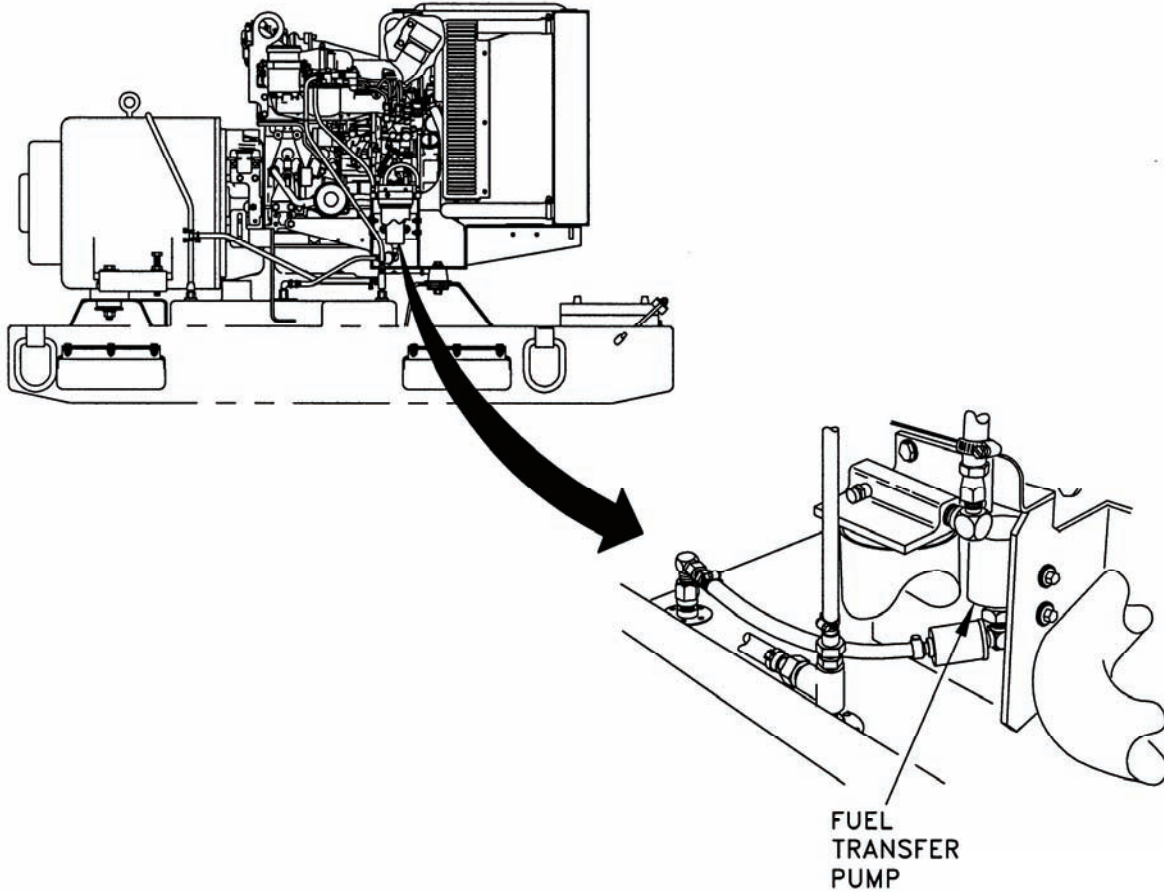

Figure 5-38. Fuel Transfer Pump Wire Harness.
- ah. Connect connector J13 to fuel transfer pump E2 connector P13 (Figure 5-38).